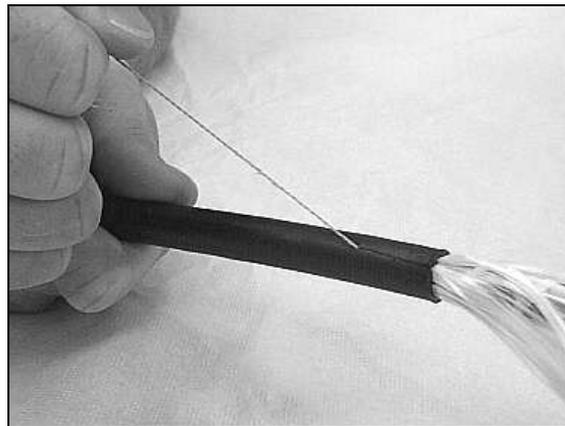

Figure 36 – Pull the ripcord through the inner jacket.
6.24 Open a short window in the inner jacket and locate the ripcord. Pull the ripcord through the inner jacket. Remove the inner jacket to expose the cable core. Repeat in both directions (Figure 36).